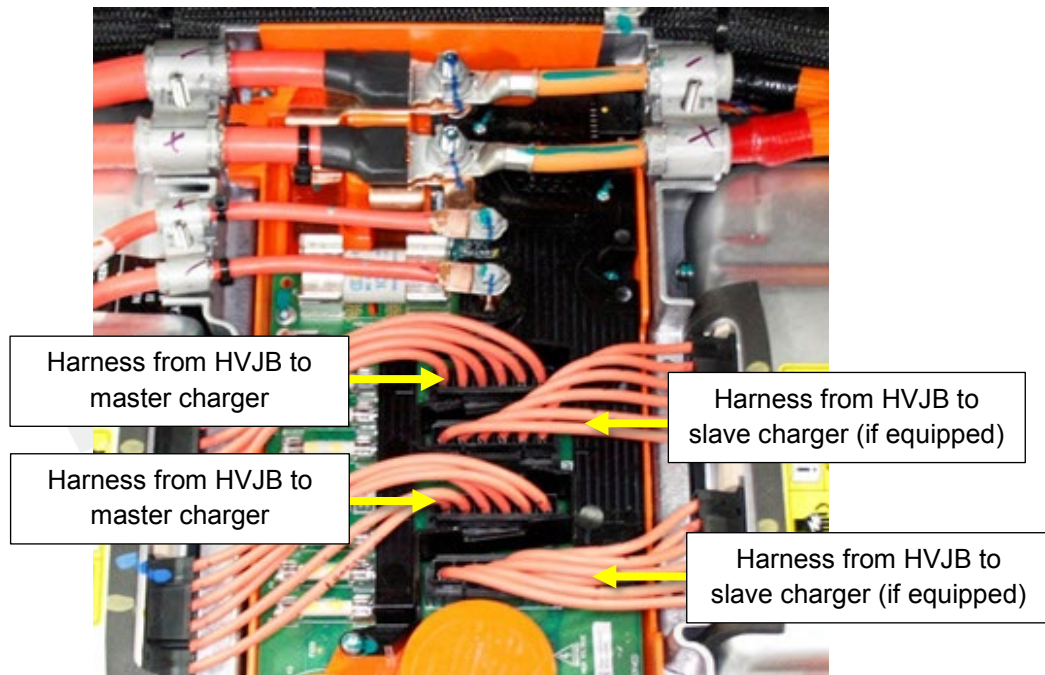

Figure 6 (Dual Charger configuration shown)
7. Disconnect the 2 master charger and 2 slave charger (if equipped) electrical connectors from the HVJB (Figure 6).